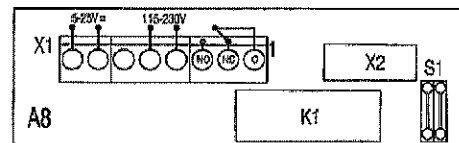

fig. 22
- Connect the communication signal wires up to the vending circuit on to terminal strip **X1**, according to the instructions in the previous section (*fig. 22*). Close the circuit box.